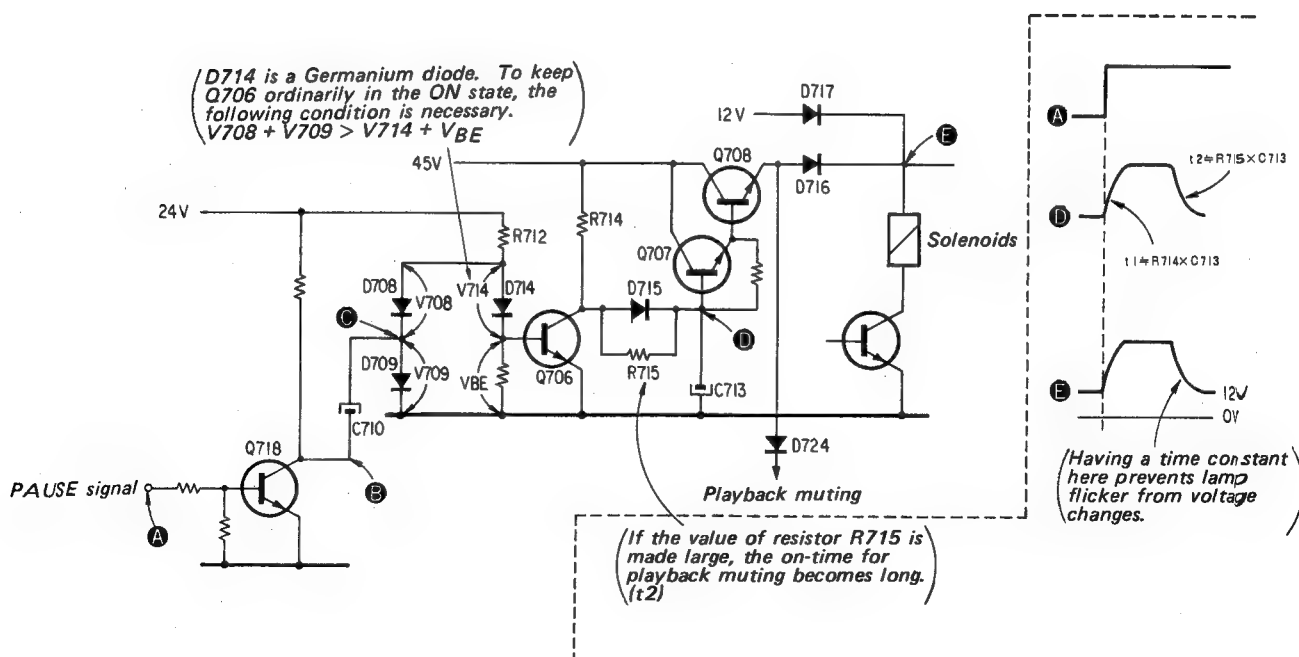

Fig. 4
4. High Voltage Power Supply for Solenoid Initial-Energization (Refer to Fig. 4)